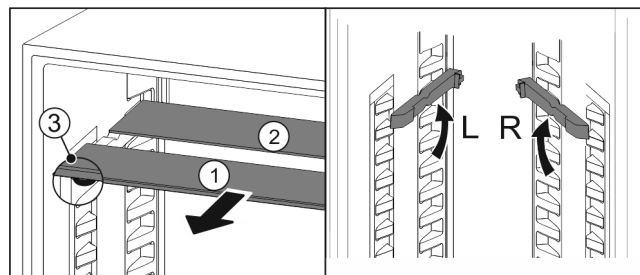

Fig. 22
- ▶ Pull the glass panels out Fig. 22 (1) from the front, one at a time.
- ▷ Glass panel *Fig. 22 (1)* with pull-out stoppers is at the front.
- ▷ Stoppers are pointing down *Fig. 22 (3)*.